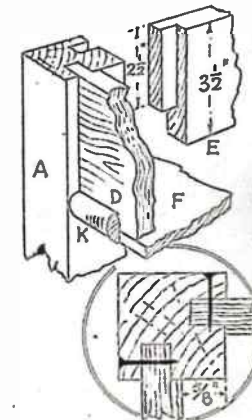

Fig. 4
to fit round the legs. The floor will be nailed or screwed to the bottom of rails (D) and (E), and to cover the raw edges of the plywood, lengths of half-round beading are put round in the manner shown in the diagram, Fig. 4.